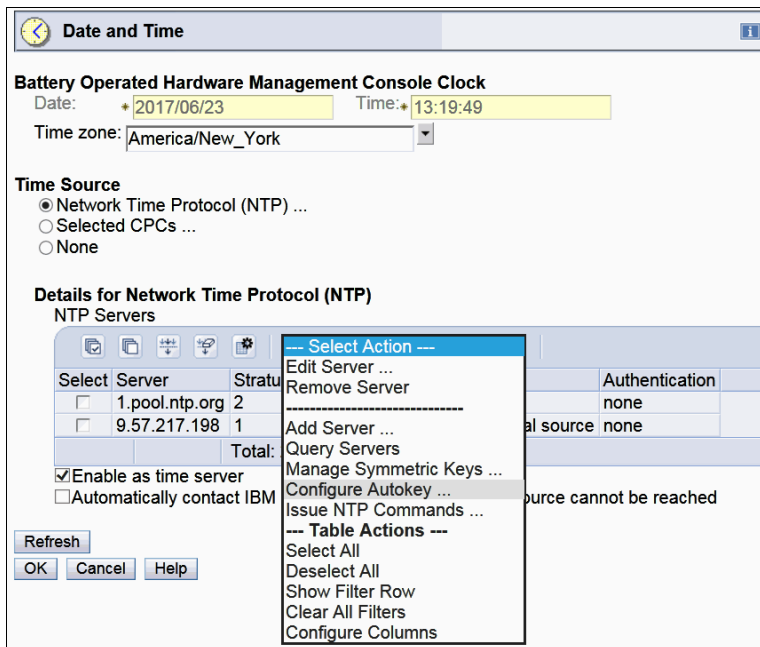

Figure 8-21 Selecting the Configure Autokey option
2. Under the Details for Network Time Protocol (NTP) section, click **Select Action** → **Configure Autokey** (see Figure 8-21).